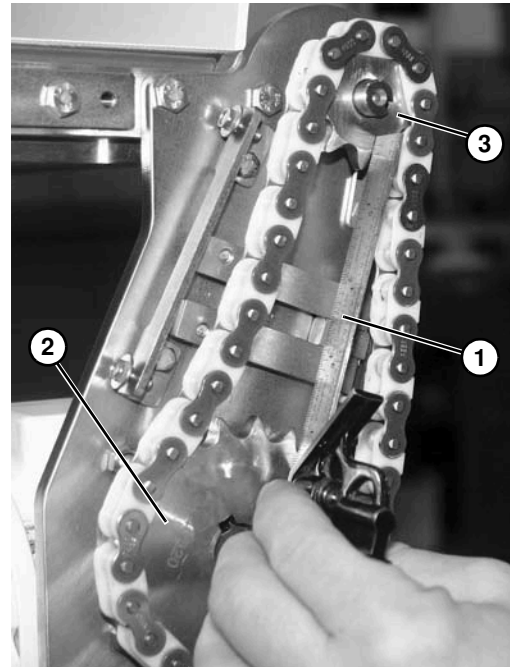
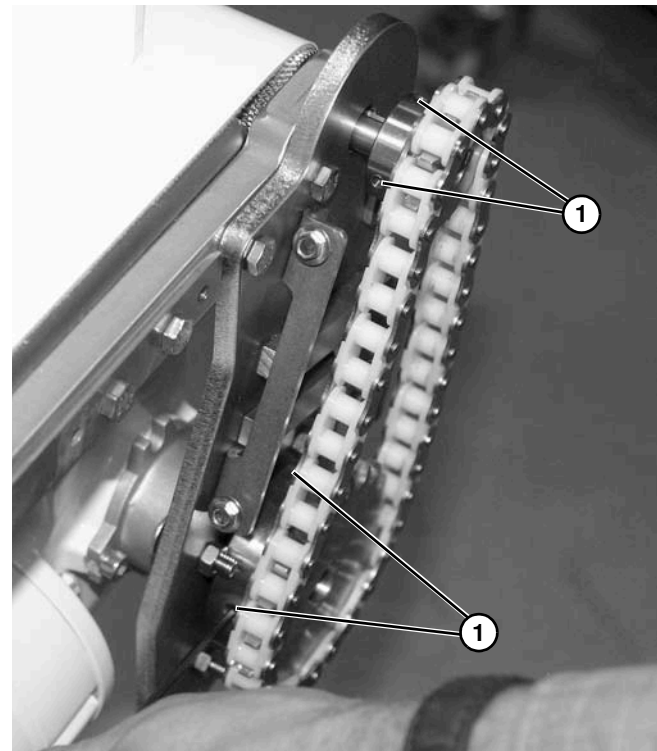

Figure 32
Figure 33
Using a straight edge (**Figure 32, item 1**), make sure drive sprocket (**Figure 32, item 2**) aligns with driven sprocket (**Figure 32, item 3**). Tighten drive and driven sprocket set screws (**Figure 33, item 1**).